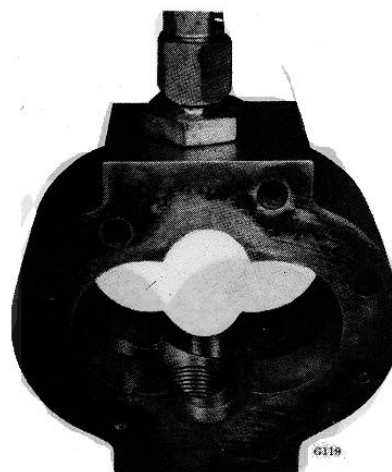

FIGURE 9-86.
- c. Examine gear chamber of body for contact between gears and body, especially the intake cavity of the body. Although wear of more than 1/64 of an inch (0.397 mm) is abnormal, it is not critical if the bearings are not defective. The intake cavity is shown in figure 9-86.